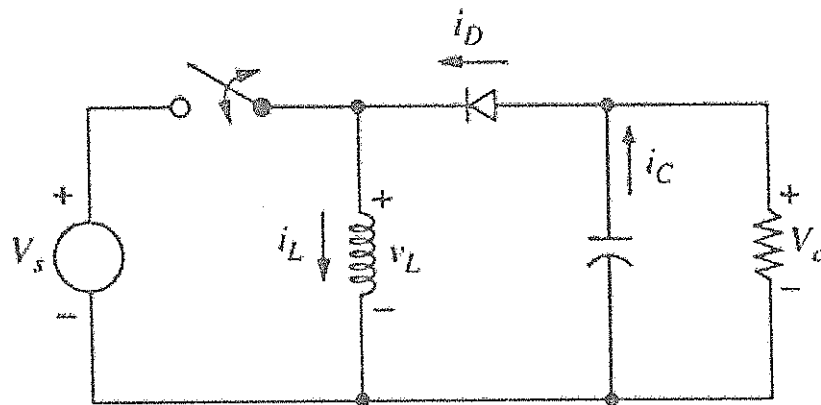

Figure 3
- c. A common buck-boost converter circuit diagram is shown in Figure 3. With the aid of suitable equivalent circuit diagrams, explain briefly the operation of buck-boost converter during the switch is closed and opened.
- d. A buck-boost converter in Figure 3 is supplied with 60V input and produces an output power of 200W. Its maximum inductor current is 10.3 A. Calculate the duty ratio (assume the value of output voltage is negative) and the minimum inductor current